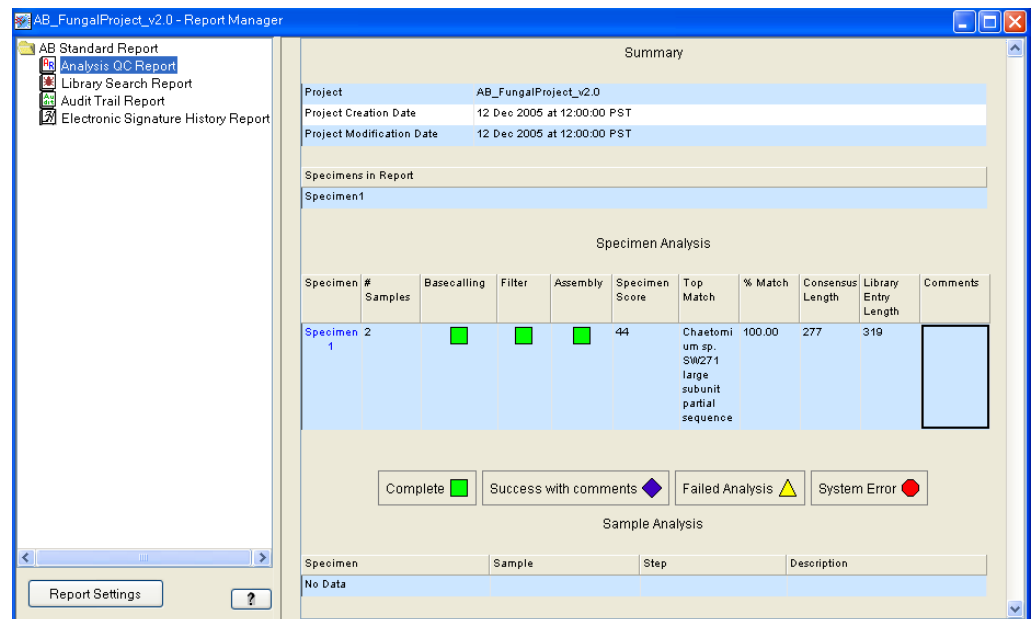

Figure 1 Example Analysis QC Report
- **Analysis QC Report** – Allows you to quickly scan the unknowns in a project to gather information about the samples, including the top percent identity match and specimen score to measure data quality. See Figure 1.